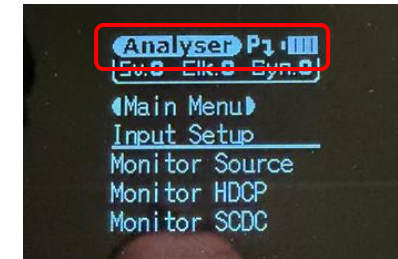

Figure 1
2. Using the Task Mode button, toggle until the screen displays the word Analyser. (figure 1)